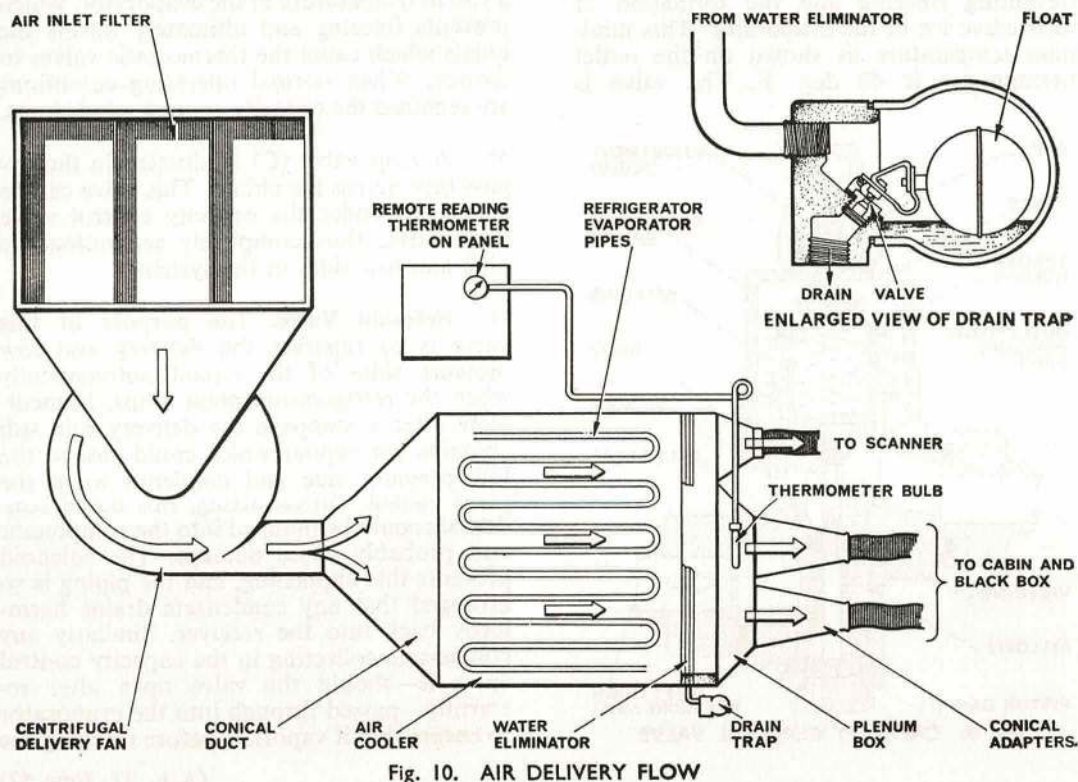

Fig. 10. AIR DELIVERY FLOW
47. The air cooling and delivery equipment is illustrated at Fig. 10.
50. **Air Cooler.** Air from the fan passes to the air cooler where it passes over four banks of finned copper evaporator pipes. At the outlet a water eliminator is fitted (Fig. 10). This comprises a chamber having a number of deflector blades upon which moisture can